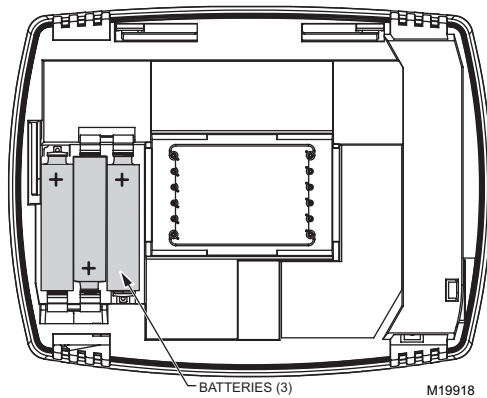

Fig. 23. Installing batteries.
1. Install three AAA alkaline batteries on the back of the thermostat as marked. See Fig. 23.